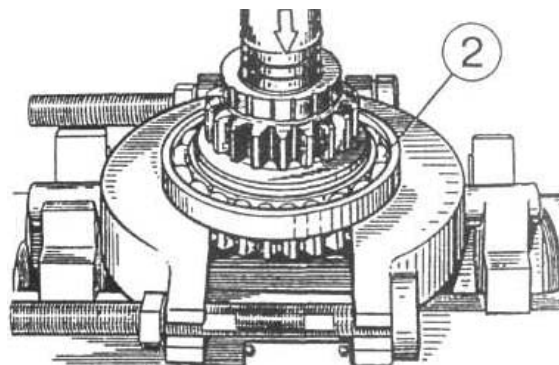

Figure 4.50
h) press the second bearing 2 off the shaft (Figure 4.50);